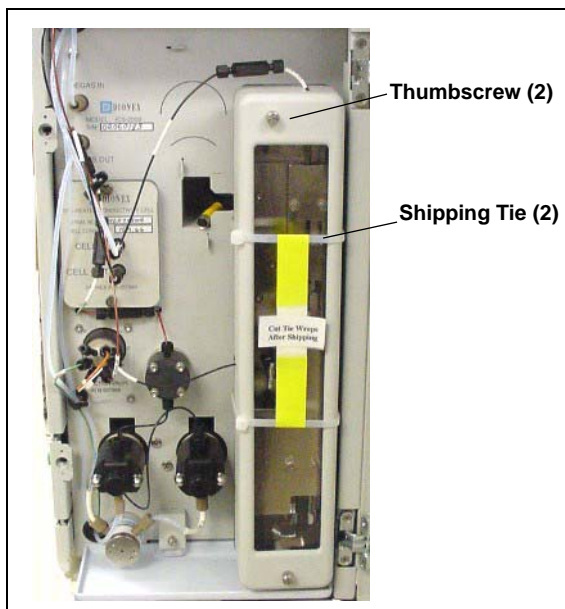

Figure 18. ICS-1500 Column Heater Setup
1. Cut off the two shipping ties from the column heater and remove them (see Figure 18).